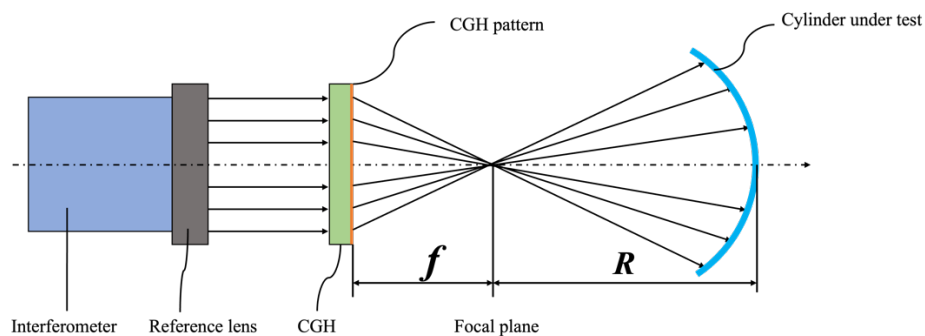

Figure 8: Diagram of optical path for testing concave cylinder lens
10.1 When the cylinder lens is concave, With the corresponding radius of R , If the focal length of cylinder CGH is f , then the optical path shown in Figure 8: